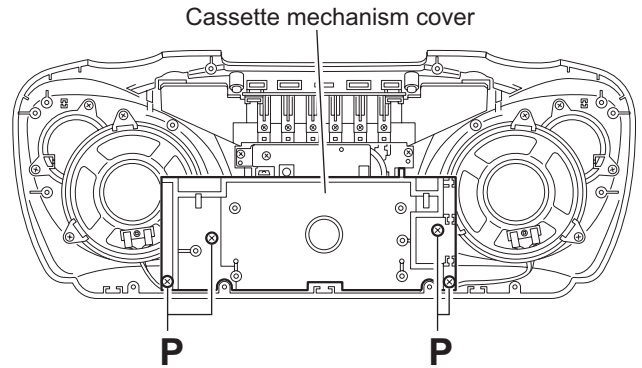

Fig.18
3.1.8 Removing the cassette mechanism assembly (See Fig.18 ~ 21)